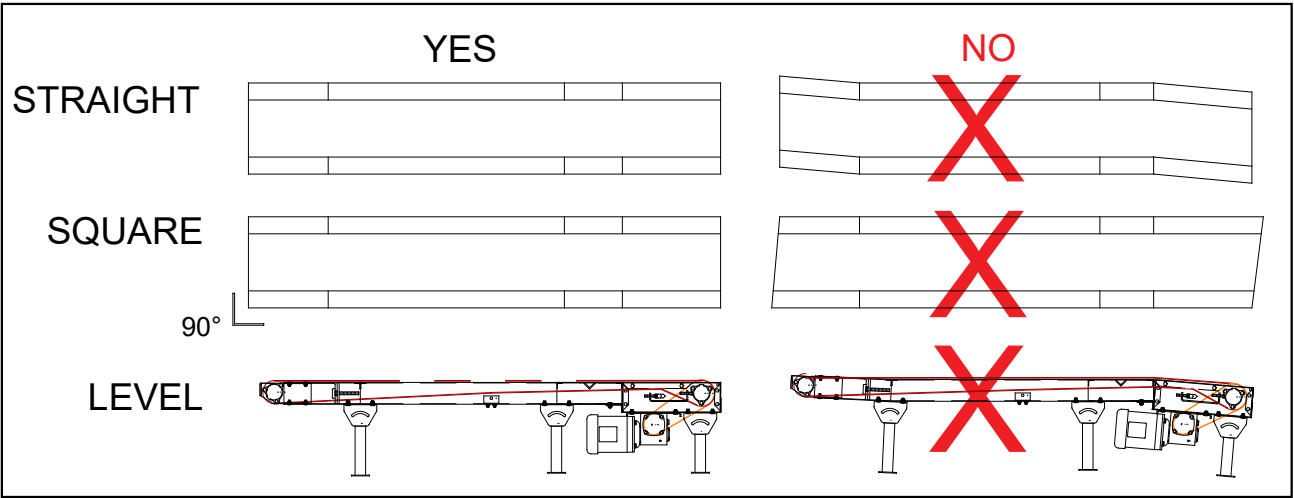

FIGURE 3
5. Bolt together conveyor frames finger tight. Square frames and make sure all frames line up with adjacent section before securing all bolts. See **FIGURE 3**.